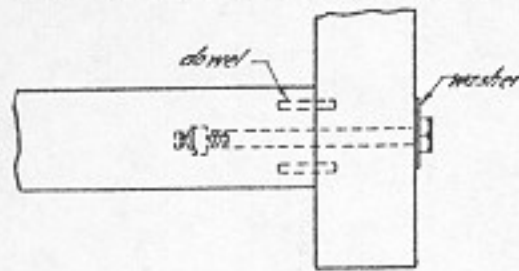

Fig. 221. Draw-bolt joint.
84. Making a Draw-Bolt Joint. A draw-bolt joint (Fig. 221) is used in timber construction which is subject to strain or vibration as when used for a workbench or a stand for a motor or machine. It has the advantage that it can be tightened when it works loose.